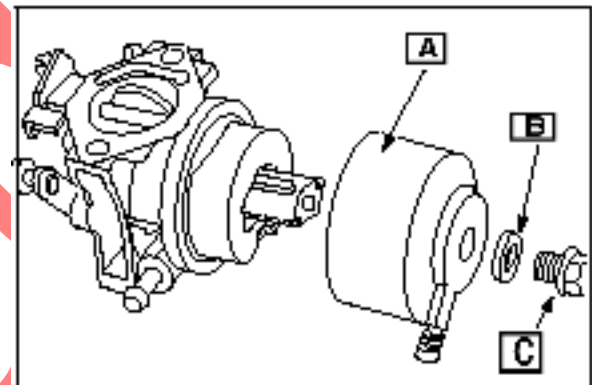

Fig. 51
1. Remove float bowl mounting screw (C), washer (B) and float bowl ([A] Fig. 51).